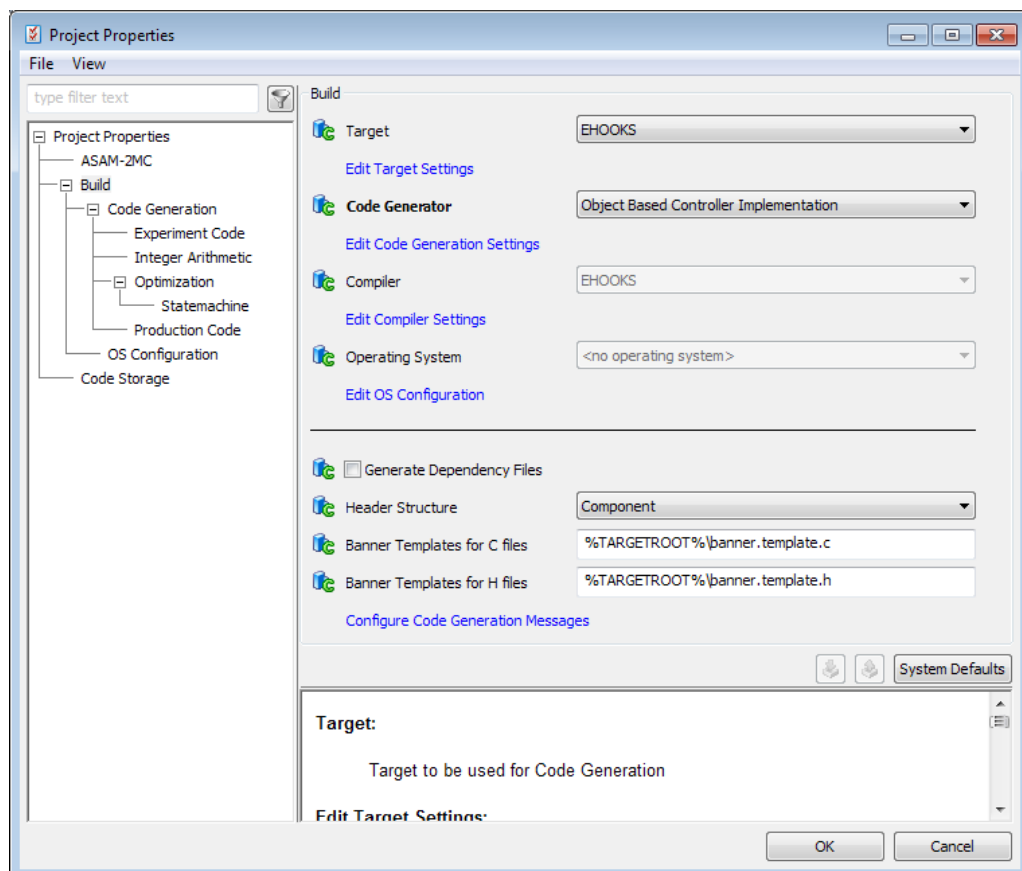

Figure 3.1: Configuring a project to use an EHOOKS target
3. Go to the "Build" node and select EHOOKS as the target for the build as shown in Figure 3.1 on this page.